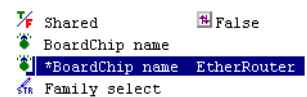

Figure 3-16 Setting up EtherRouter
3. Select the name of the required group, for example **EtherRouter**. A new entry is displayed in the right pane with an asterisk * beside it, shown in Figure 3-16.